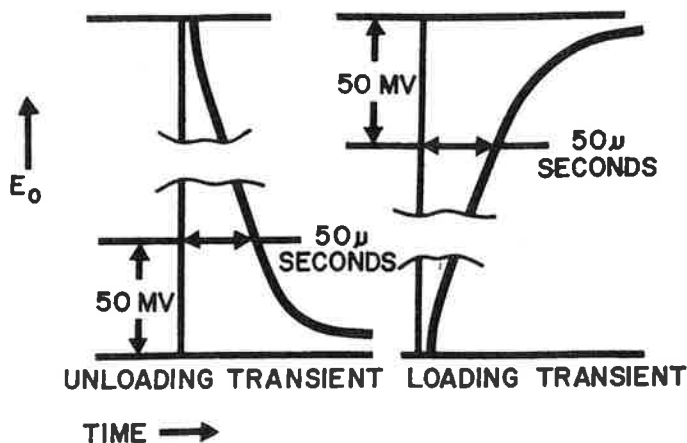

Figure 5-2. Transient Recovery Waveform Diagram
e. Recovery time on the oscilloscope display should not exceed 50 μ s as shown in Figure 5-2.